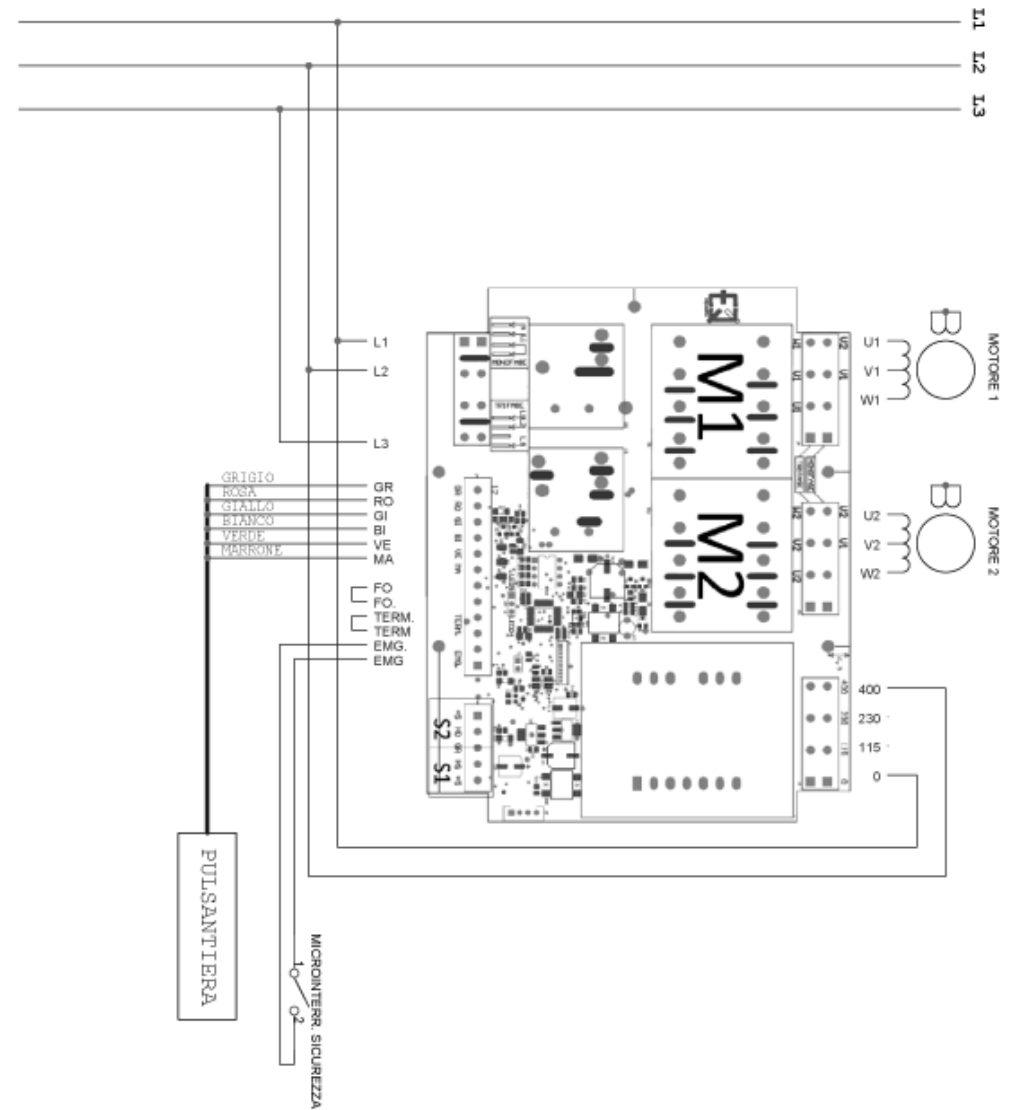

Fig. 2.4.1
2.4.1 - Wiring diagram three-phase 400V (Fig. 2.4.1)
When installing the appliance bear in mind that amp space must be left around the appliance. Refer to the dimensions given in Fig. 2.4.1. This space allows you to work freely with the appliance and allows easy access when servicing or repairing it.